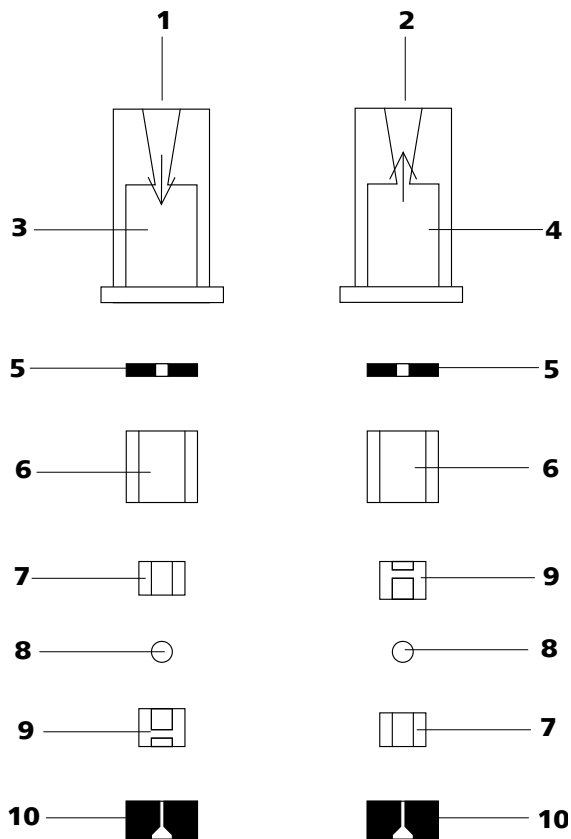

Figure 43 Components of the inlet valve and outlet valve
- The inlet valve and the outlet valve consist of the same, just differently arranged components (*see figure 43, page 80*).
Reassemble valve components *according to figure 43, page 80*.
- Lay the other valve components above another in the correct sequence (*see figure 43, page 80*).
If this is not the case, the valve has to be dismantled again and be reassembled correctly (*see figure 43, page 80*).